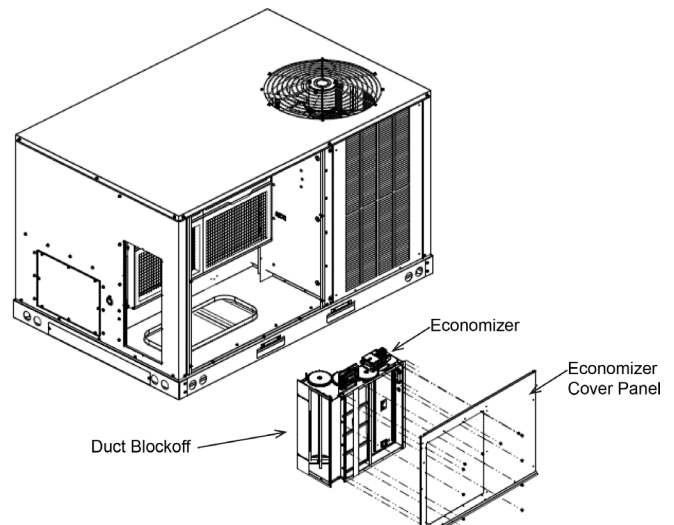

FIGURE 2 - SLIDE ECONOMIZER INTO UNIT
5. Place economizer in return air section of unit aligned with the horizontal duct opening (see Figure 2).
6. Install the economizer cover panel using the screws removed in step 3. The holes in the economizer should line up with the holes in the cover panel (see Figure 2).